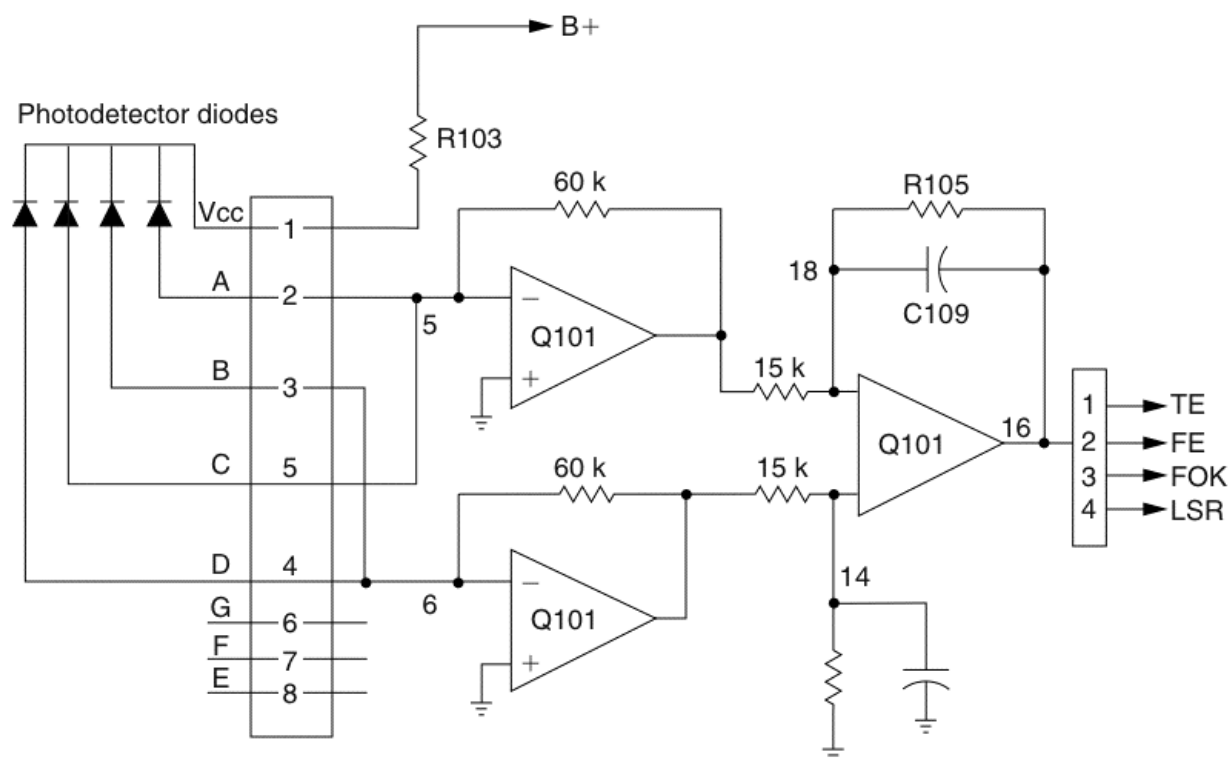
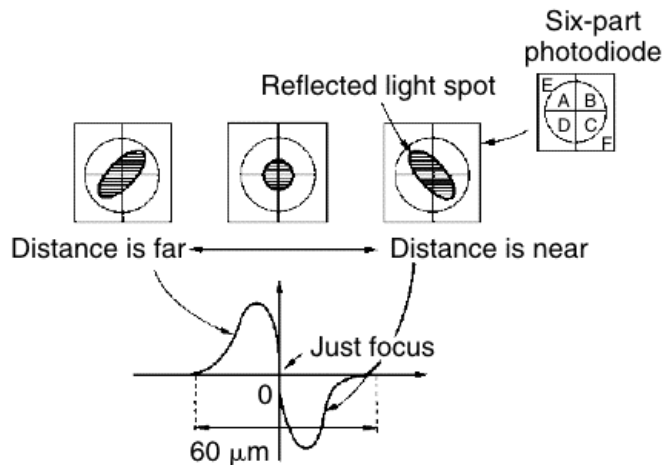

FIGURE 25-13 The focus-error output signal is taken from pin 2 of Q101 in an Onkyo CD player.
FIGURE 25-14 Correct focus is shown with a perfect circle in the center of these photodiodes.
The A, B, C, and D photodiode light-source currents undergo a diagonal subtraction in three operational amplifiers in Q101, resulting in the generation of a focus-error (FE) signal (Fig. 25-13). Figure 25-14 summarizes the FE signal changes at different distances from the disc reflecting surface.